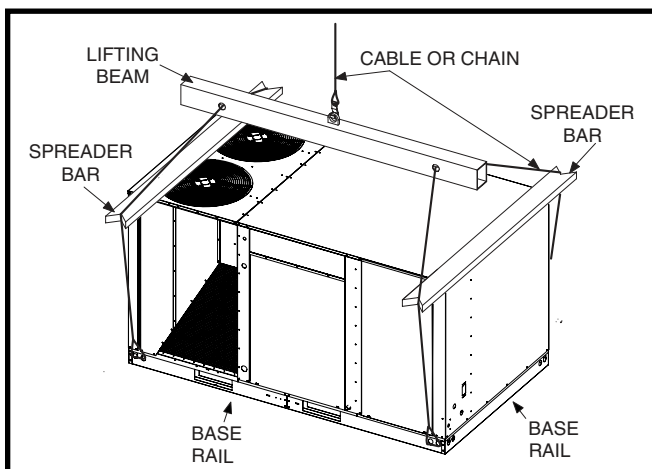

Figure 5. Rigging & Hoisting
- The unit must be lifted from the holes in the base rails using cables or chains. See Figure 5.
- Spreader bars (Figure 5) are required to protect the unit and ensure even loading.